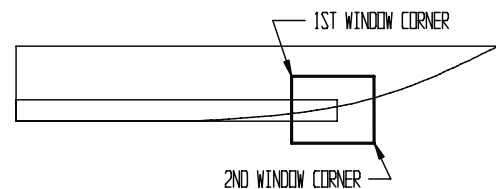

FIG. 8
Step 1. Use **ALT-W** to zoom in on the forward end of the wood base. Hold down ALT and press W. Move the cursor to just above and to the left of the front end of the wood base, **Fig. 8**. Click to start 1ST WINDOW CORNER. Move the mouse to surround the front end of the wood base. Click to set 2ND WINDOW CORNER.